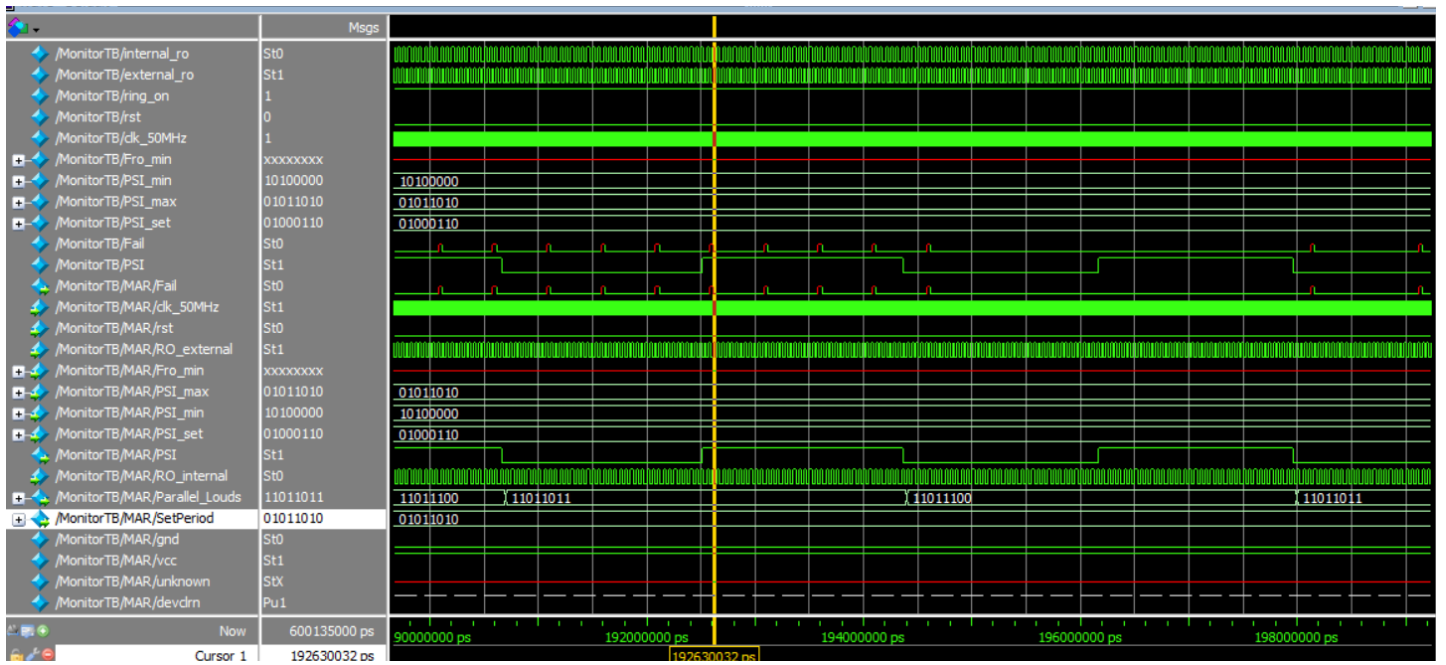

Fig. 3 Scenario 1
A. Look at tables and figs 3, 4 and 5